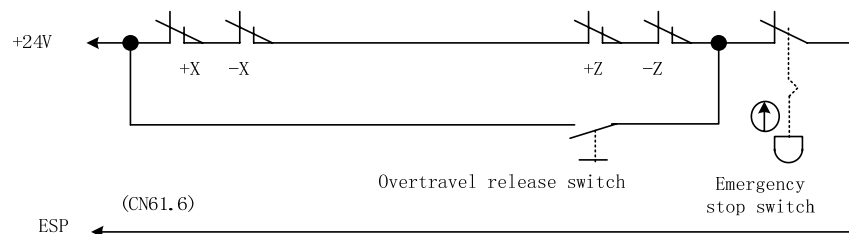

Fig.2-27 Series connection between emergency stop and travel switch
(1) The series connection between the emergency stop and travel switch is shown in Fig. 2-27: